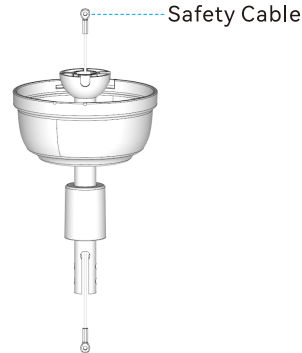

Fig. 2.1
2.1 Assemble the downrod as shown in Fig. 2.1. Insert the downrod through the canopy and wiring cover.